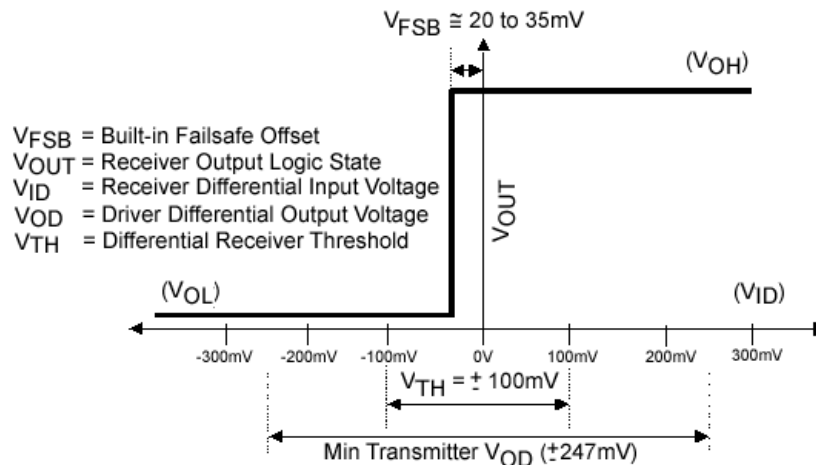

FIGURE 1. Differential Input Voltage versus Receiver Output Voltage
For Fairchild LVDS receivers designed with an internal failsafe bias, they typically will have an internal bias voltage of  $\approx 20$  to  $35\text{mV}$  (Figure 1). In a cable application where the receiver will not always be driven by the transmitter and there is a potential for the presence of more than  $20\text{mV}$  of
differential noise on the receiver inputs, additional failsafe resistors should be considered. The resistor values should be specified to overcome the differential noise and have minimal impact on the driver current. Figure 1 illustrates a typical differential input voltage versus the logic output state of the receiver.
1. Reviewing the circuit in Figure 1, with the driver card powered down ( $V_{CC} = 0V$ ), the ESD protection diode network on the driver card is forward biased. This results in a clamping action of the diodes providing an alternate current path reducing the offset voltage created across the termination. The diodes forward bias causing an approximate worst case clamping of the line at  $\pm 0.3V$  with respect to ground.